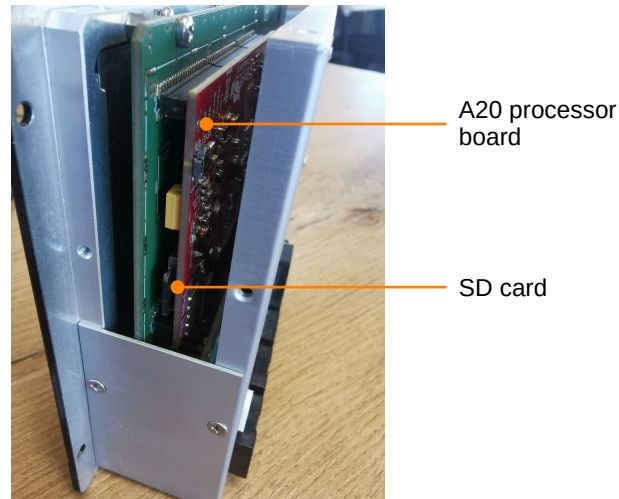

Figure 3: Location of the A20 processor and its SD card in Nesis 7 and Aetos.
3. Locate the A20 processor module and an SD card on the side. See Figure 3.